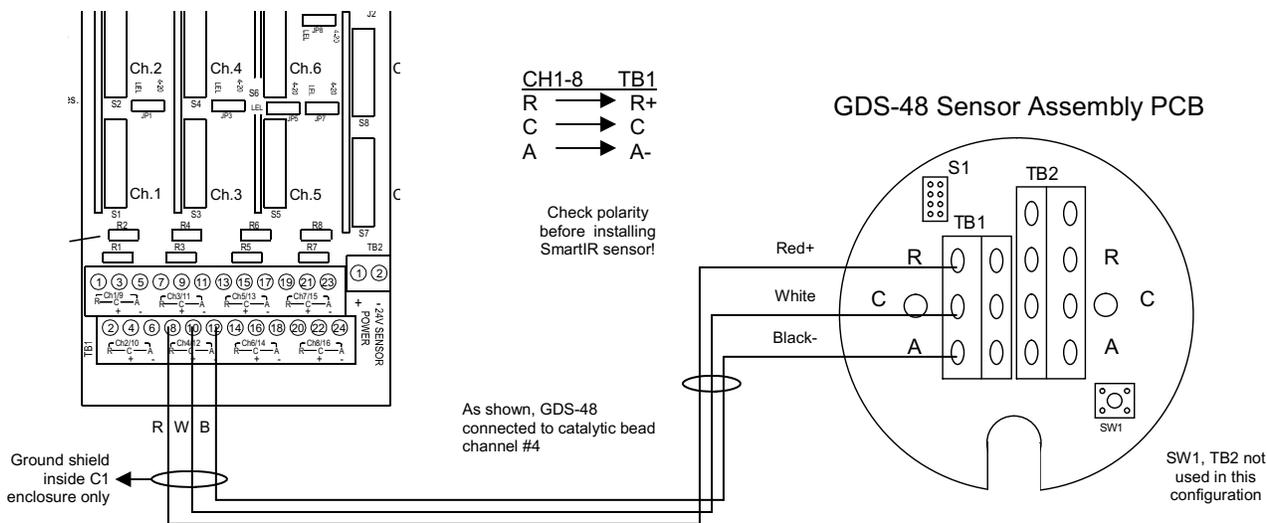

Fig 3. C1 Controller to GDS-48 Wiring Diagram for SmartIR
- 3) Connect the C1 to the GDS-48 as shown in Fig. 3. (R = Reference Bead(+), C = Common, A = Active Bead(-))